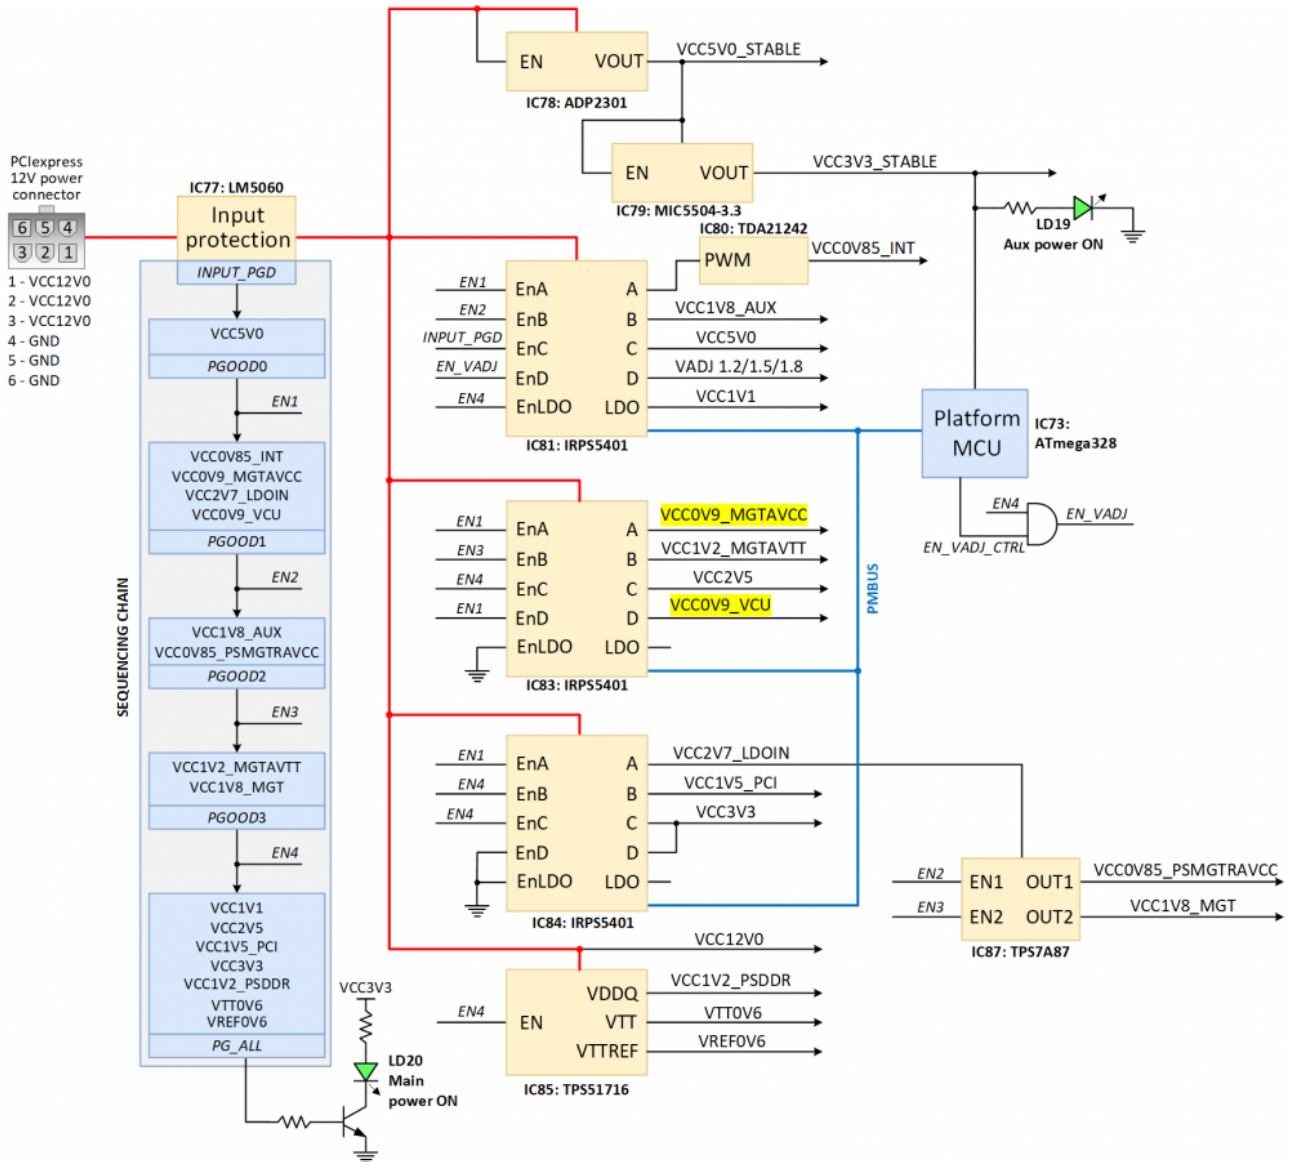

Figure 1.2.1: Genesys ZU power distribution network and supply sequencing
Figure 1.2.1 gives an overview of the Genesys ZU power distribution network.
The board is powered up by sliding the SW5 switch to the ON position. The voltage supplies start-up sequence is defined by implementing a power good daisy chain that selectively enables groups of voltages that should start together. All supplies use a soft start mechanism to reduce the surge currents during turn on. The start-up sequence is suggested in Figure 1.2.1 and can be described in the following steps:
5. A similar trigger mechanism applies to the third (*PGOOD2=En3*) and the fourth (*PGOOD3=En4*) voltage groups as illustrated in Figure 1.2.1. The fourth group also includes the dedicated DDR4 power supply with all its output voltages.